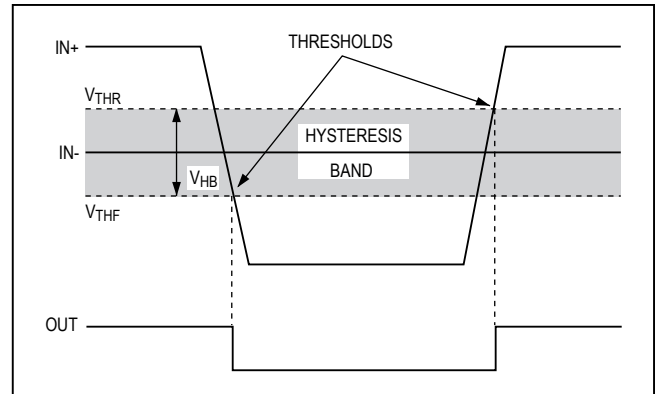

Figure 1. Threshold Hysteresis Band
- Note 3:** The hysteresis-related trip points are defined as the edges of the hysteresis band, measured with respect to the center of the band (i.e., V_{OS}) (Figure 1).
The hysteresis in a comparator creates two trip points: one for the rising input voltage (V_{THR}) and one for the falling input voltage (V_{THF}) (Figure 1). The difference between the trip points is the hysteresis (V_{HB}). When the comparator’s input voltages are equal, the hysteresis effectively causes one comparator input to move quickly past the other, thus taking the input out of the region where oscillation occurs. Figure 1 illustrates the case in which the comparator’s inverting input has a fixed voltage applied, and the noninverting input is varied. If the inputs were reversed, the figure would be the same, except with an inverted output.